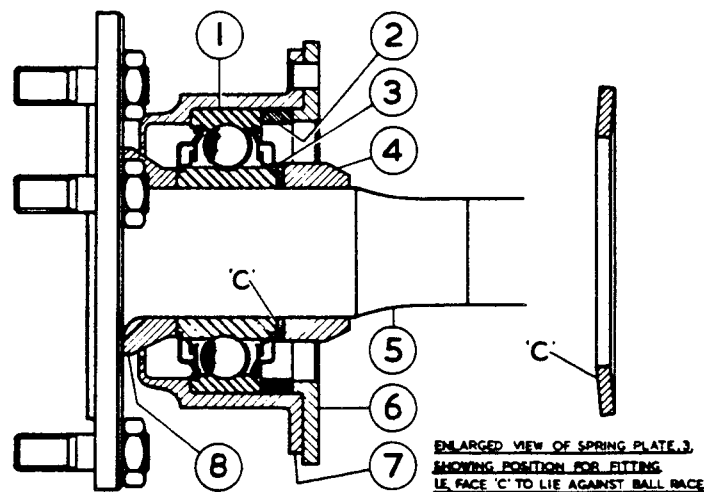

FIG. 1. SECTION - REAR AXLE SHAFT ASSEMBLY.
- (i) With the spigot plate (6 Fig.1) removed from the bearing housing, mount the assembly in a lathe, turn the collar (4) until it is very thin and then split it. This will avoid the turning tool damaging the shaft.
- (i) With a micrometer, measure the width of the outer race of the old and new bearing. The variation in outer race width should not exceed .002" = .05 m/m (maker's figure). If the new bearing is wider, a similar amount should be ground off the adjusting piece (2 Fig.1), but if it is narrower or of identical width, the adjusting piece can be refitted without alteration. A .002" end float of the adjusting piece, between the outer race of the bearing and the spigot plate, could arise from this procedure which is permissible.
- (iii) Next place the distance piece (8) on to the axle shaft followed by the housing complete with bearing and press the bearing fully home. Fit the spring plate (3), making sure it is positioned the correct way round (See Fig.1).
- (iv) Squarely press on the collar (4) until it is also fully home which will automatically flatten out the spring plate. (Do not lubricate bore of collar prior to pressing it on).
- (v) Place the adjusting piece (2) in position and attach the spigot plate (6) to the housing by means of two bolts to keep the adjusting piece and spigot plate to its correct assembly.